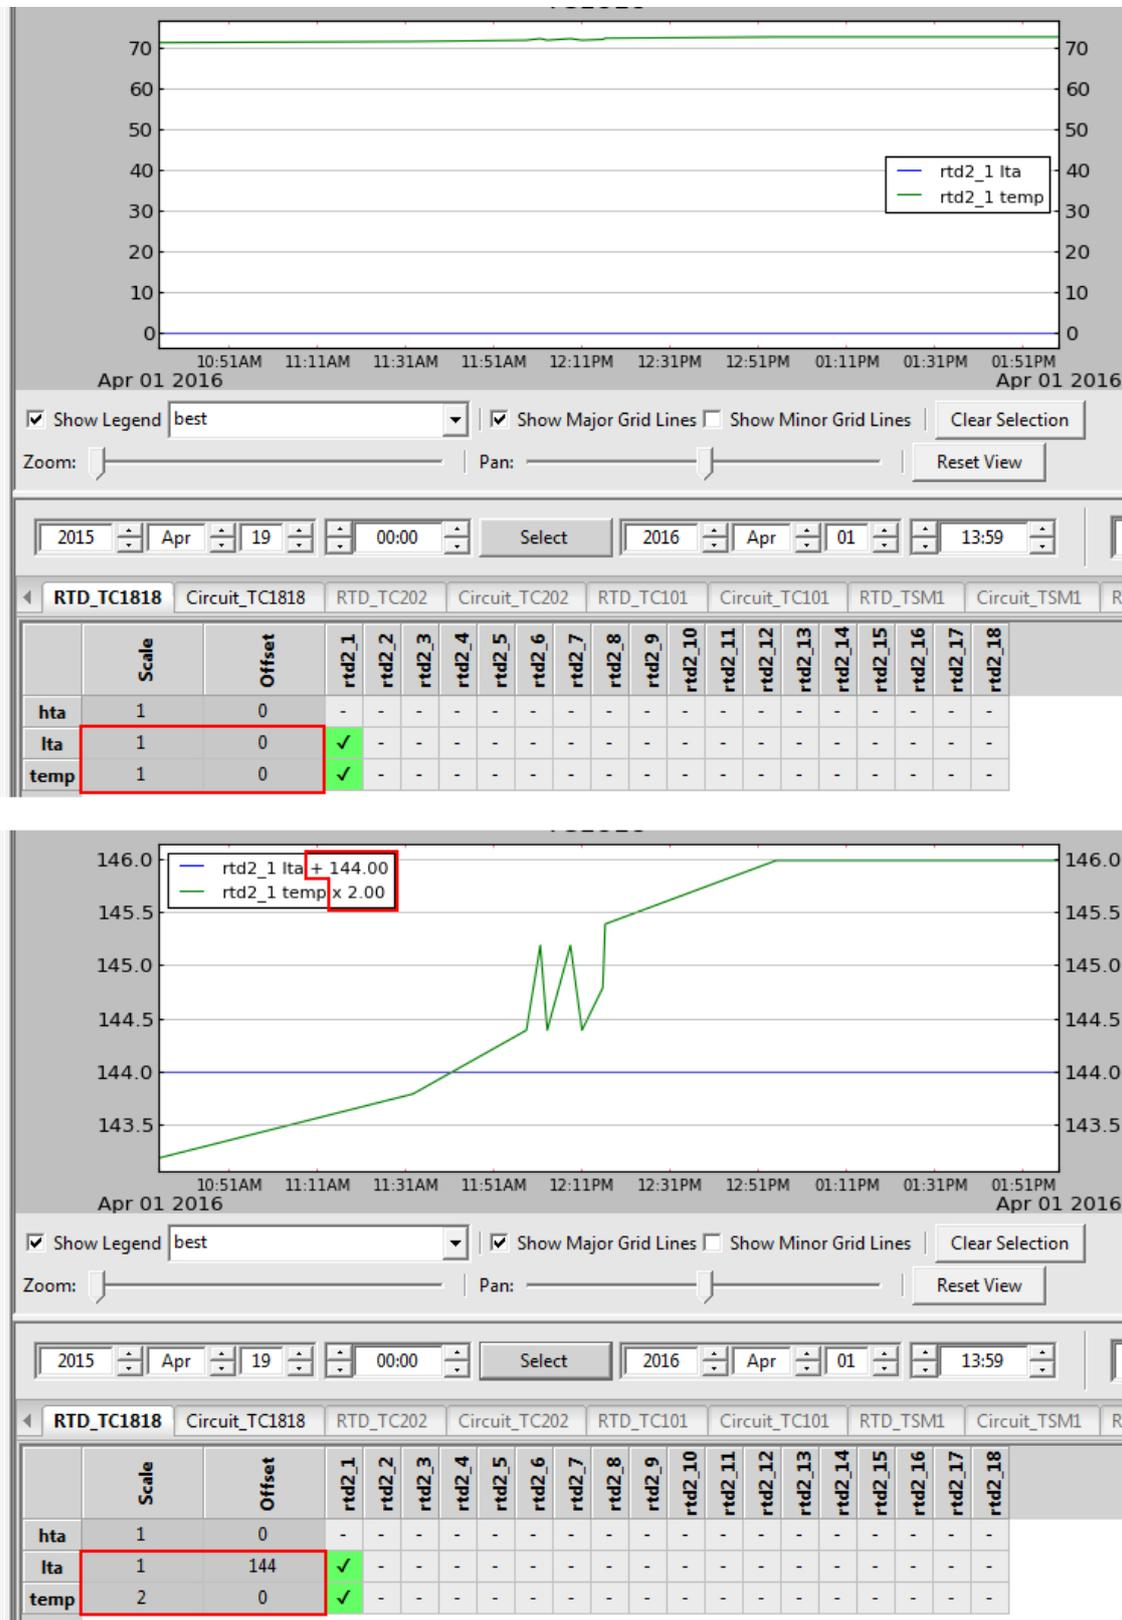

Figure 22: Trend Plotter - Scale and Offset
9. Add and offset and scale to a data type to change the plot as desired. Figure 22 shows an example of the original plot and the resulting plot after adding 144 to the offset and increasing the scale to 2. Note that the legend shows the offset (+) and the scale (x) values in front of the data type.